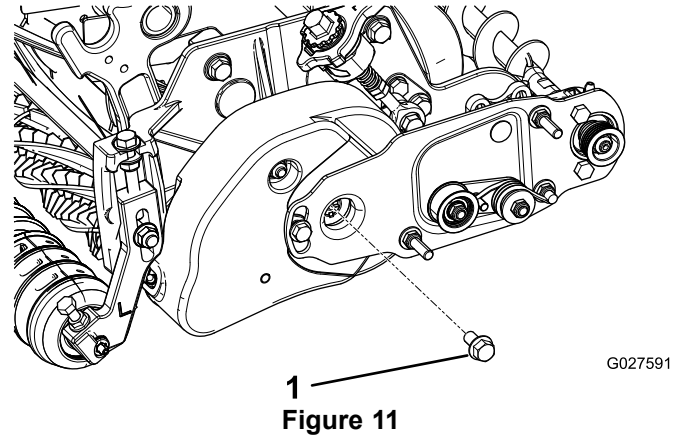

Figure 11
- Remove the bolt securing the groomer pulley to the driveshaft (Figure 11).